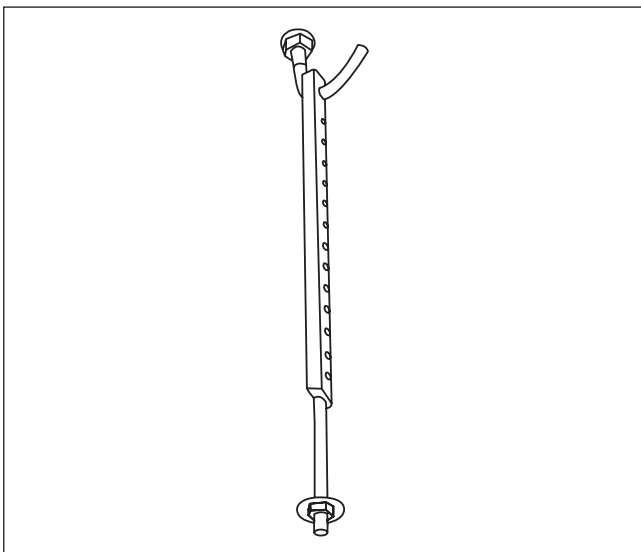

Fig. 6.
4. Install the four suspension bolts (See Fig. 6).